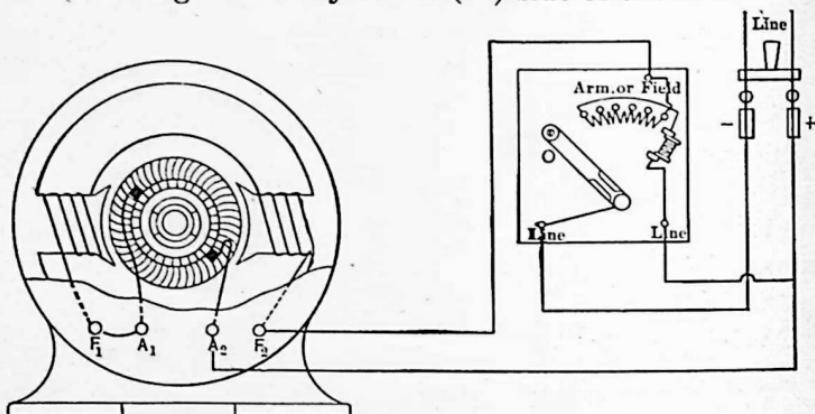

FIG. 151. The connections of a starting box for a series motor.
72. Series Motor. Starting Box. The starting box of a series motor is always a three-point box, but still always has a "no-voltage" release as is seen by Fig. 151.